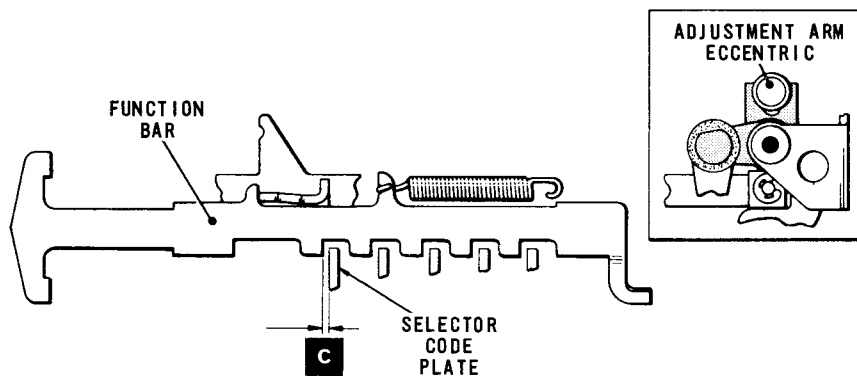

Fig. 4.4 FUNCTION BAR RESET MECHANISM
- 5.1 Ensure that the translator camshaft is in the rest position and check that there is a clearance of .015 - .030 in. (dimension 'c') between the projections on the function bars, Fig.4.4, and the selector code plates.